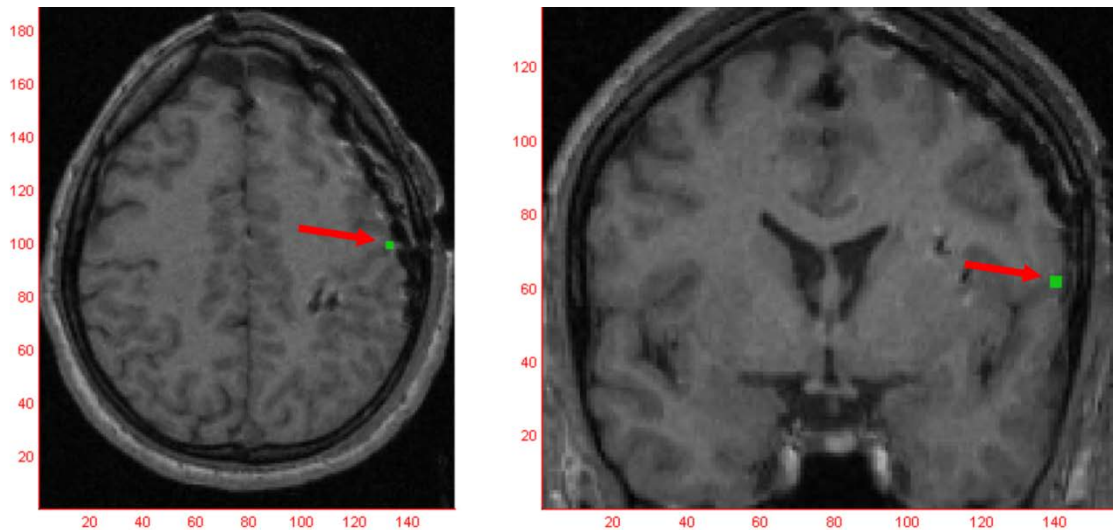

Figure 9: MTV screenshots demonstrating marker set on central (left panel, horizontal slice) and lateral (right panel, coronal slice) sulci
- Markers for CS and LS have to be set as close as possible to the cortical surface without overlapping with electrode markers. Set only one or two marker per plane (see fig. 9; left panel CS, right panel LS)